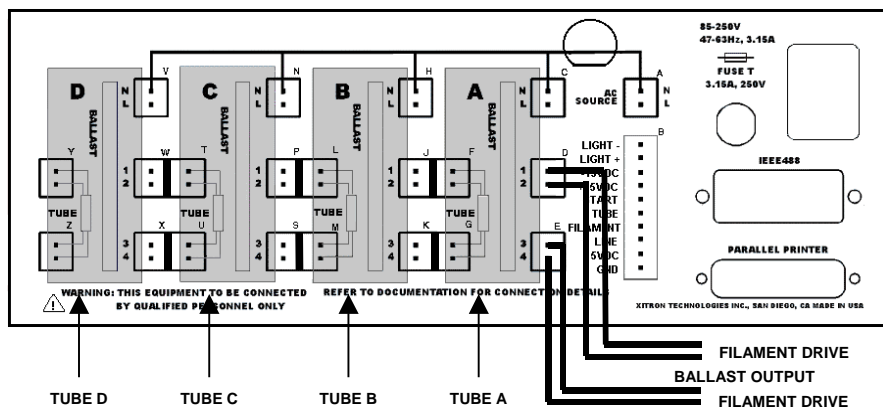

Figure 9. Example of Four-pin Load, Four-pin Ballast Output Connections
- Connect each ballast in sequence as shown in *Figure 9*. Use section A for ballast #1, and section B for ballast #2, etc.